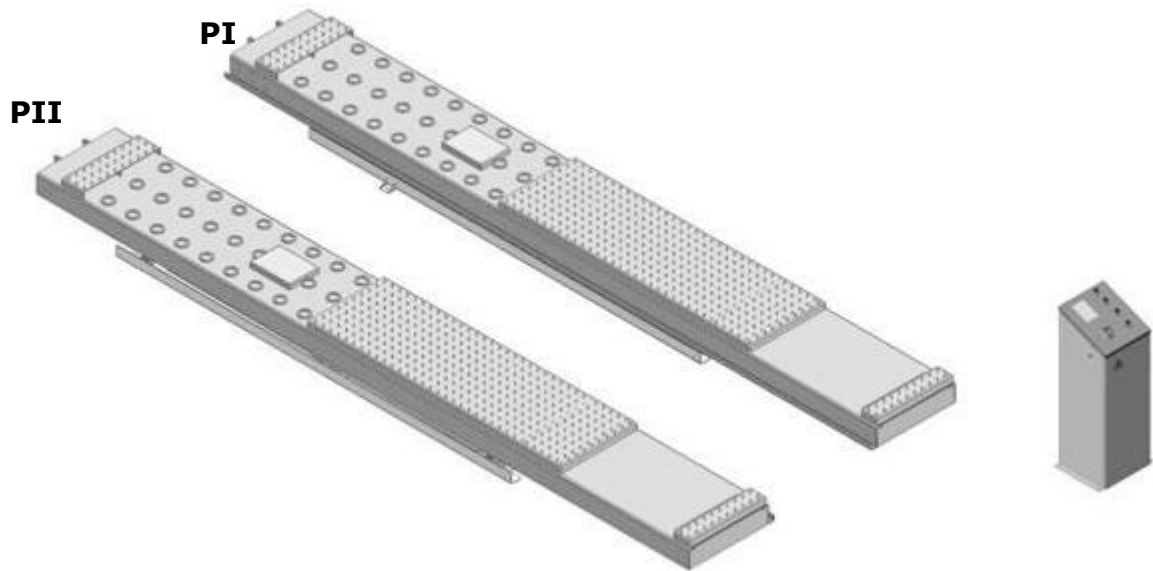

Fig. 21
1. Select a location and layout the equipment according to steps **A (See Fig. 21,22)**.